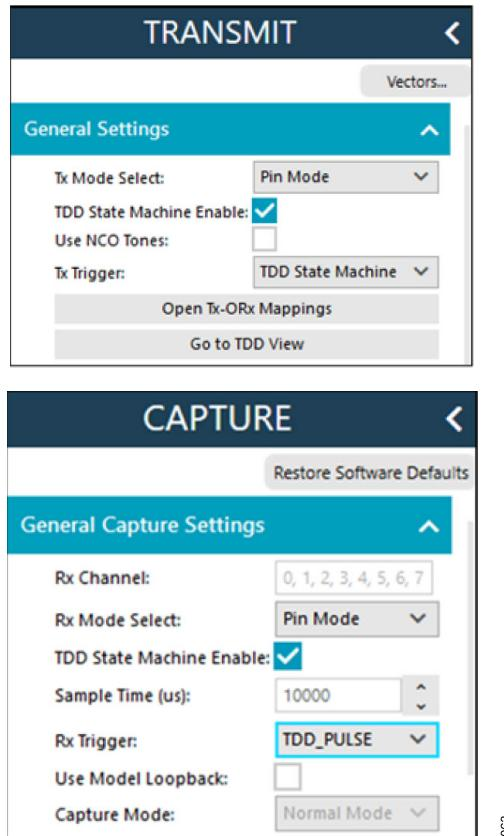

Figure 63. Runtime Pages Updated to Trigger Data Source and Capture Using the TDD State Machine for Rx
3. Click **Configure** to configure the TDD state machine using the specified timings. This enables the TDD state machine (the **Enable TDD FSM** checkbox). To perform data sourcing and capture in TDD mode, the user must additionally modify capture settings on the **Runtime** pages, as illustrated in Figure 63 .